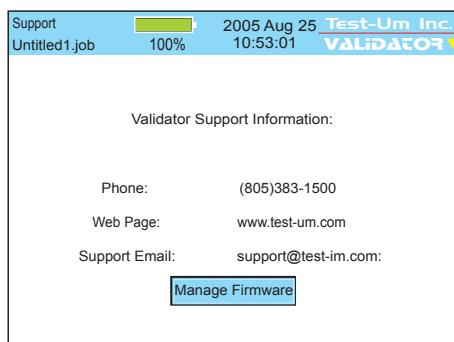

Figure 2.6 Support Information
6. Select the firmware file from the Firmware Package list. Press the Install soft key (F1) to install the firmware. (Figure 2.6)